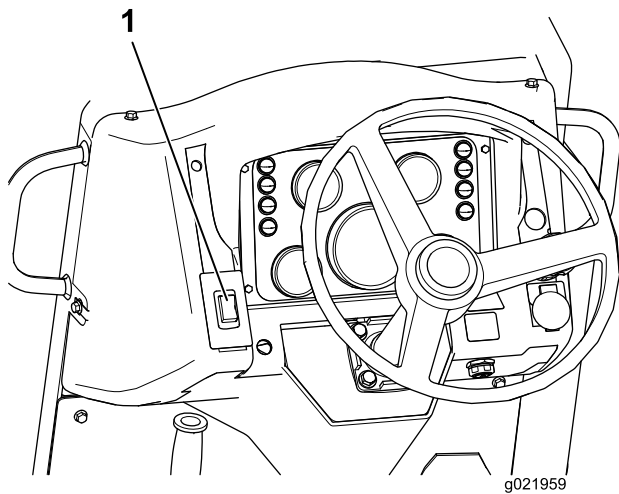

Figure 23
- Push the parking brake switch (Figure 23) up to apply the parking brake.